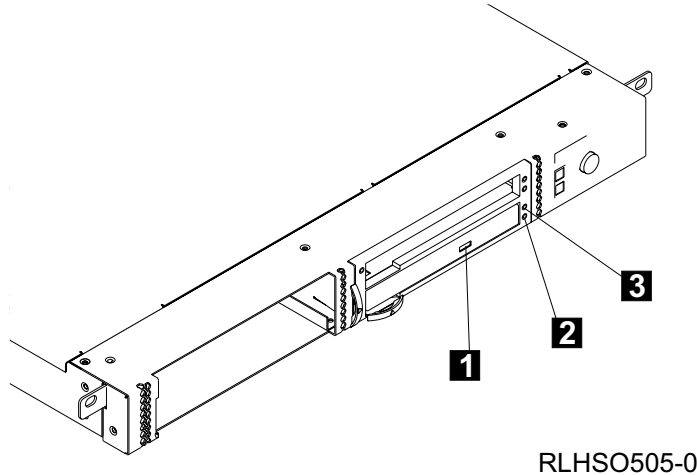

Figure 22. Front View of the DVD Drive
Figure 22 shows a front view of the DVD Drive.
1. Press the load/unload button to eject the disc tray (see Figure 22 on page 44).